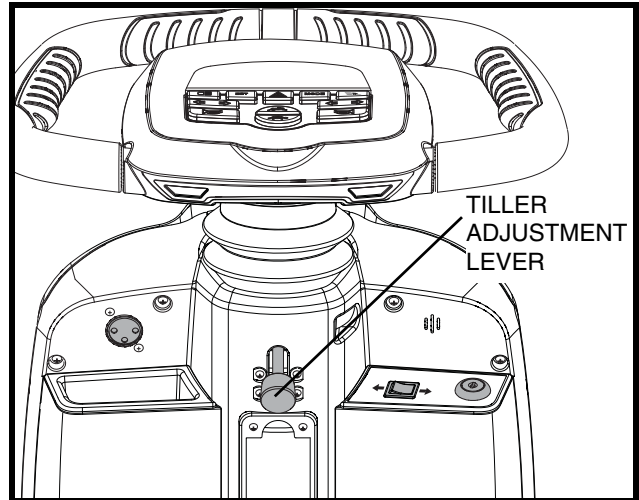

Figure 17. Tiller Adjustment
1. Pull up on the tiller adjustment lever. **See figure 17.**